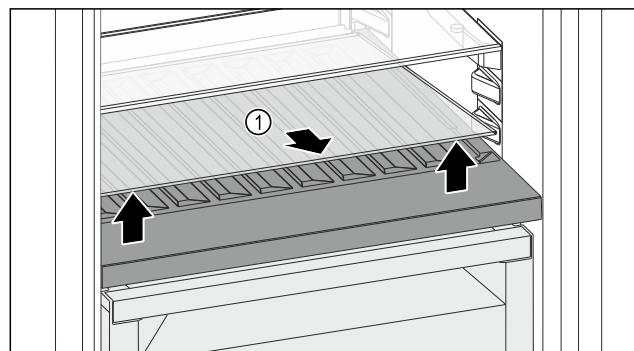

Fig. 124
- ▶ Lift the glass shelf Fig. 124 (1) at the front and remove.
- ▶ Store the glass shelf Fig. 124 (1) in a safe place outside the appliance.